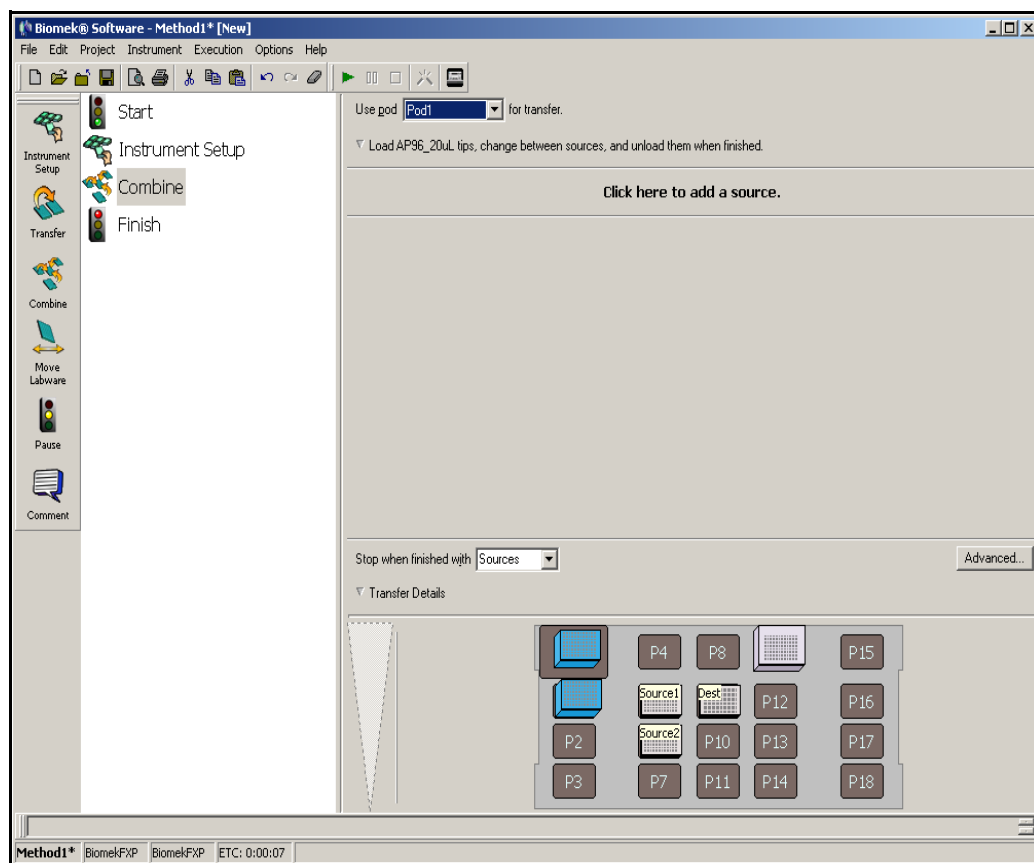

Figure 2-2. Combine step inserted and Tip Handling collapsed
7. Collapse **Tip Handling**. Your main editor should look like Figure 2-2.
1. Click on **Click here to add a source** (Figure 2-2)